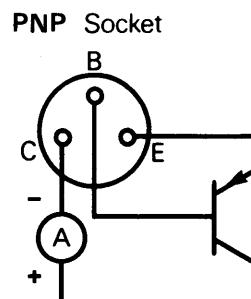

Fig. 13. Field calibration, f_T circuit.
- Remove NPN Transistor and insert PNP Transistor into front panel socket labeled PNP (15) with current meter in series with the collector lead (See Fig. 13). Current measured should be between 9 and 11 milliamperes for proper operation.